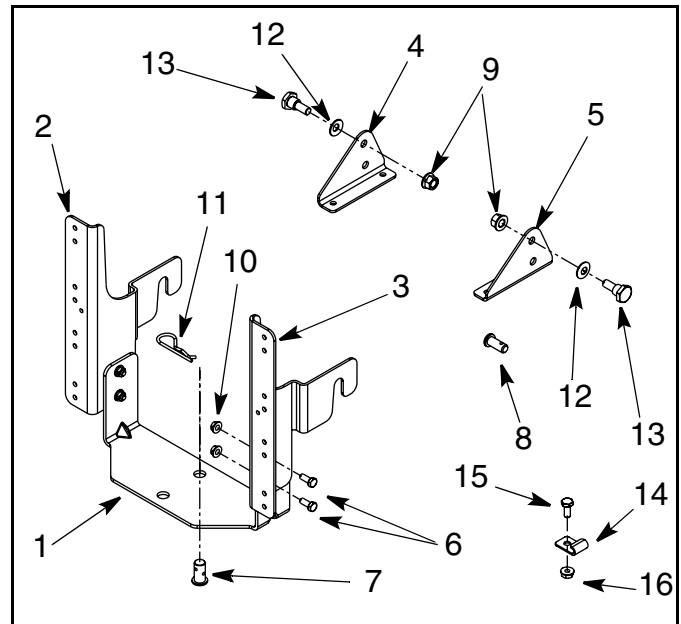

FIGURE 1
See Figure 1
- Install the four (4) Hex Head Screws (Ref. No. 6) through the LH and RH Support Catcher Brackets and Support Cross Bracket and secure with four (4) Flange Lock Nuts (Ref. No. 10). Do not tighten, leave slightly loose. Refer to Figure 1.